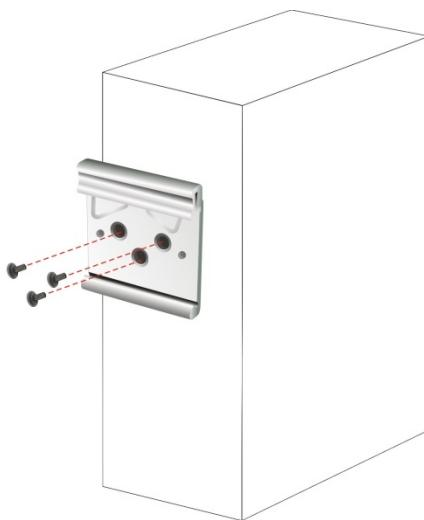

Figure 3-26: DIN Rail Mounting Bracket Installation
Step 1: Attach the supplied DIN rail mounting bracket to the rear panel of the embedded system. Secure the bracket to the embedded system with three retention screws (**Figure 3-26**).